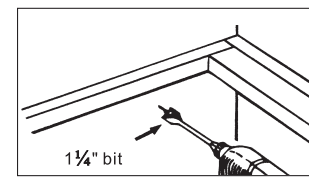

Fig.8
1. After turning off the proper 120 volt circuit at the service entrance, drill out the electrical power line access hole marked on the cabinet bottom or wall. Use a 1¼" wood bit. (Fig. 8)